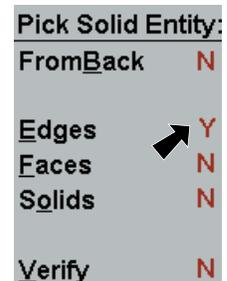

Fig. 47
Step 5. Click Edges to **Y** and others N, **Fig. 47**.